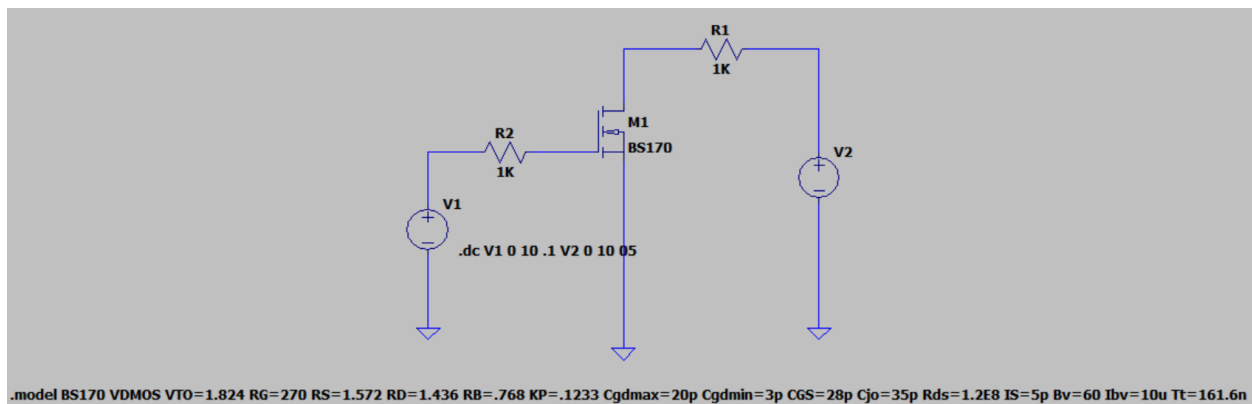

Figure 7: LTspice schematic of NMOS transfer characteristics circuit
1. Connect the circuit as shown in Figure 7.